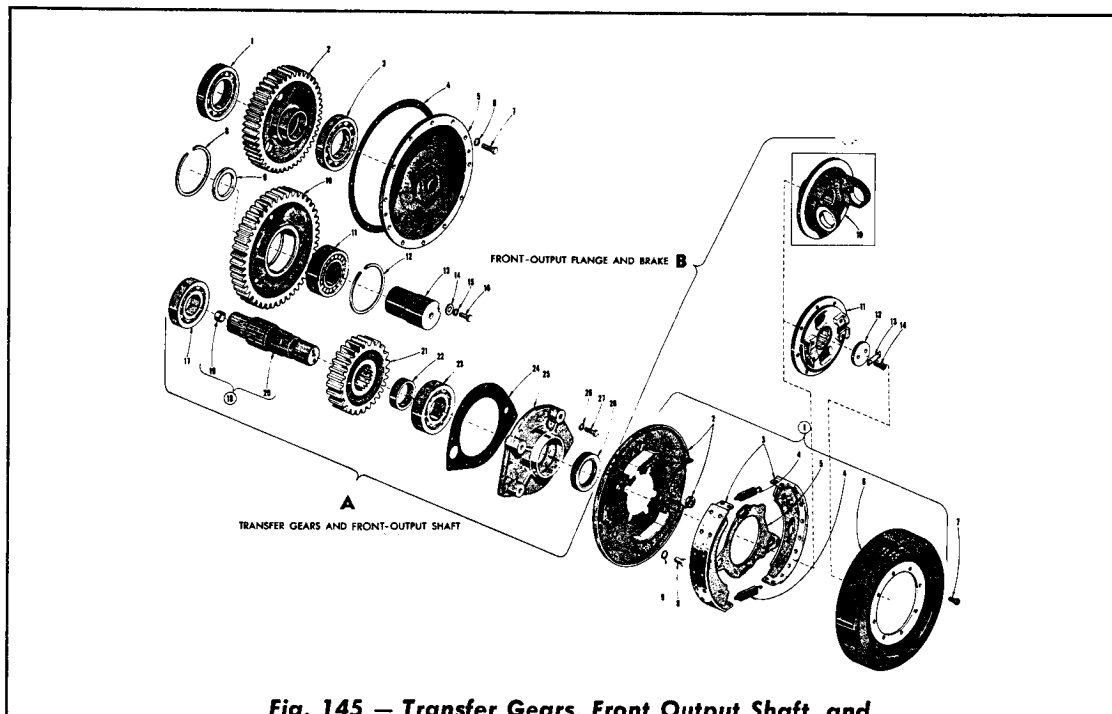

Fig. 145 — Transfer Gears, Front Output Shaft, and Front Output Flange and Brake — Legend
1. Disassembly (Fig. 145)
- a. Remove the bearings (1 and 3) from the transfer drive gear (2).
- b. Remove the snap ring (12) from the transfer idler gear (10). Remove the transfer idler gear bearing (11) from the transfer idler gear.
- c. Press the oil seal (28) out of the front bearing retainer (25).
- d. Remove the transfer driven gear bearing (23) from the shaft (20). Remove the transfer driven gear spacer (22) from the front output shaft (20).
- e. If replacement of the bushing (19) is necessary, collapse the bushing and remove it from the shaft (20).
Refer to Topic 4 for cleaning and wear limits. Refer to Fig. 145 for wear limits.
3. Assembly (Fig. 145)
- a. If the bushing (19) was removed, install a new bushing. Press the bushing 0.160 to 0.200" below the end of the shaft.
- b. Install the transfer driven gear spacer (22) onto the shaft (20). Install the transfer driven gear bearing (23) onto the front output shaft (20).
- c. Press the oil seal (28) into the front (chamfered end) of the front bearing retainer (25).
- d. Install the transfer idler gear bearing (11) into the transfer idler gear (10). Secure the bearing with the snap ring (12).
All items in Fig. 145 are removed in Par. B, and